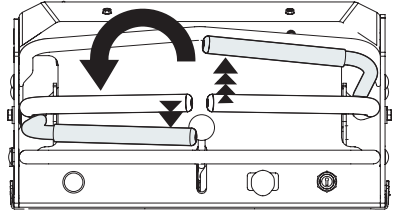

Figure 14
2. To turn clockwise, move the left drive control lever forward while simultaneously moving the right drive control lever rearward. See Figure 14.
3. To turn counterclockwise, move the right drive control lever forward while simultaneously moving the left drive control lever rearward. See Figure 14.